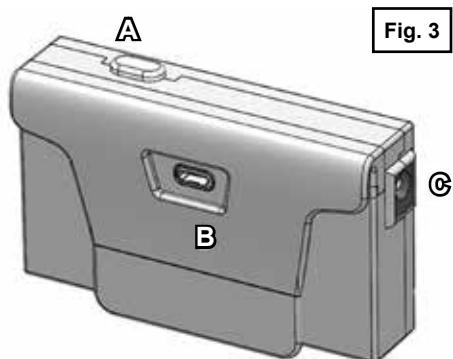

Fig. 3
**Switching the lights on:** by pushing the button A on top of the control-Box (Fig.3), you can cycle through operating-modes of the LEDs: